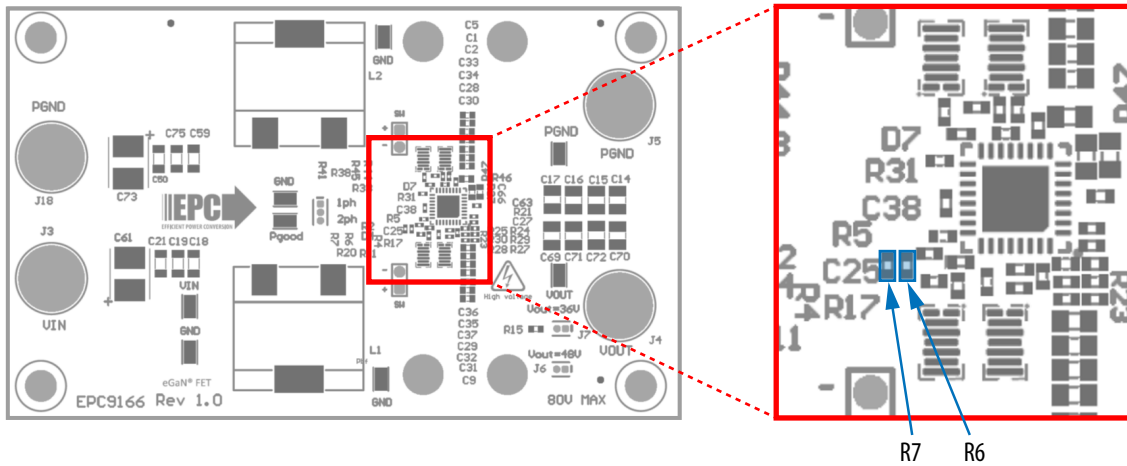

Figure 9: EPC9166 ULVO settings: location of R6 & R7
The input UVLO threshold voltage can be set by R6 and R7 as shown in Figure 9. The default values of V_{uv} are listed in table 1. If needed, a new UVLO voltage and hysteresis can be set by changing R6 and R7 using equation (1) and (2). Please refer to ISL81807 datasheet for more information.